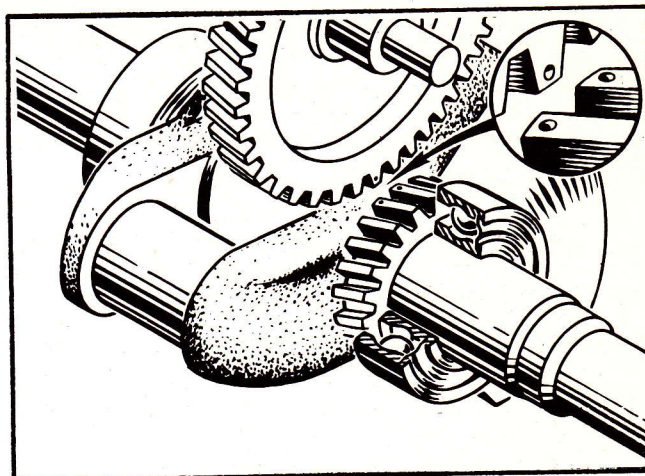

Figure No. 21
2. These teeth must mesh when the crankshaft is inserted into the block with a slight tilting motion. (See Figure No. 21.)